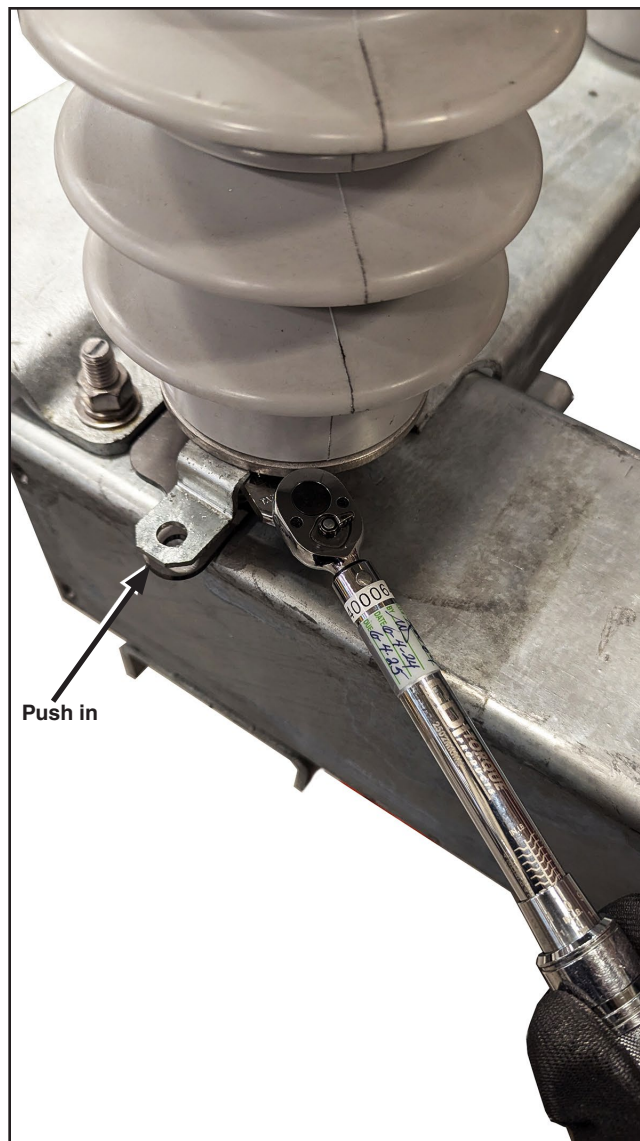

Figure 10. Positioning the upper bracket and tightening the bolt.
STEP 7. Push the bracket into the spindle while tightening the bolt to 35-ft-lbs with the $\frac{9}{16}$ -inch offset box end socket and torque wrench. See Figure 10.